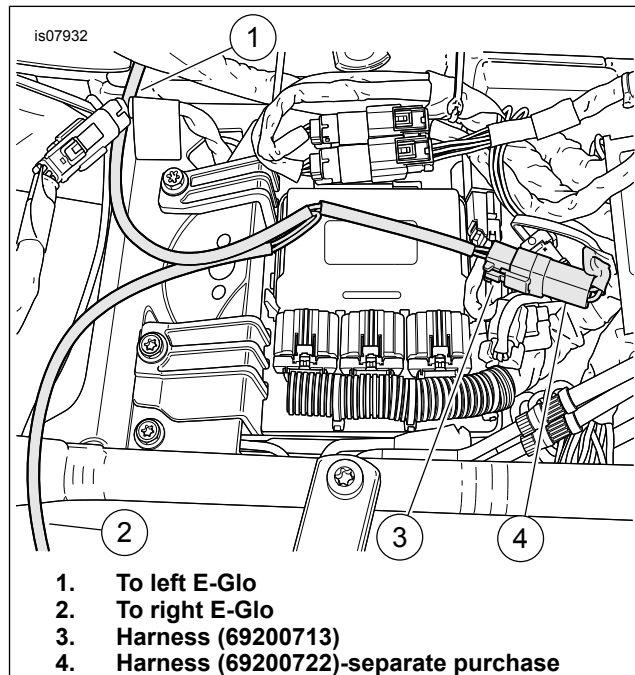

Figure 3. Install Electrical Connection Harness
3. See Figure 3. Install the electrical Harness Extension per the instructions in that kit (see installation requirements).